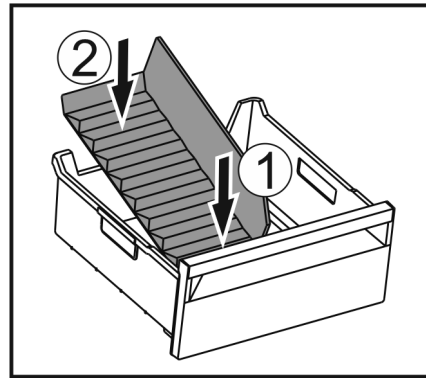

Fig. 35
- ▶ Put in the divider at the front first Fig. 35 (1).
- ▶ Lower the rear part Fig. 35 (2).